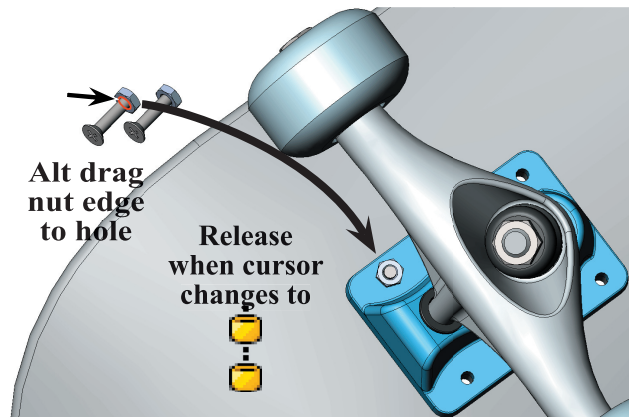

Fig. 16
Step 2. **Alt drag** cylindrical edge of underside of nut to edge of bolt hole in baseplate, **Fig. 16**. When assembly snaps into place and pointer (cursor) changes to Concentric mate  release assembly. Try slightly spinning assembly in the hole to check correct mate.